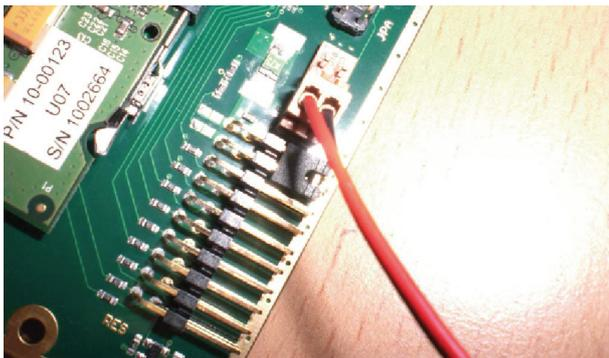

Fig. 69 Installation of a USB 2.0 Stand-alone module in mounting chassis - Power supply voltage via power cable
2. Plug the power cables from the chassis power supply unit into the multi-pin connector of the USB 2.0 stand-alone module. Observe the cable colors, see Fig. 69.